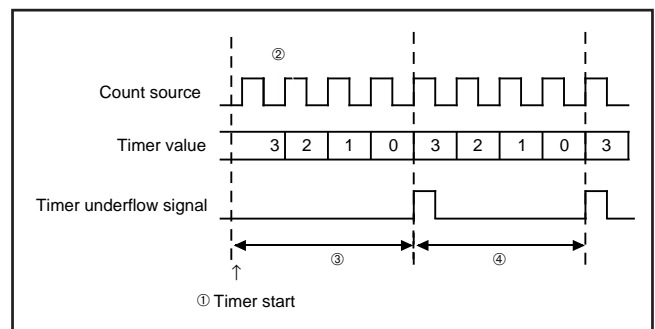

Fig. 29 Count start time and count time when operation starts (T1, T2)
Count starts from the rising edge ② in Fig. 29 after the first falling edge of the count source, after timer 1 and timer 2 operations start ① in Fig. 29. Time to first underflow ③ in Fig. 29 is different from time among next underflow ④ in Fig. 29 by the timing to start the timer and count source operations after count starts.